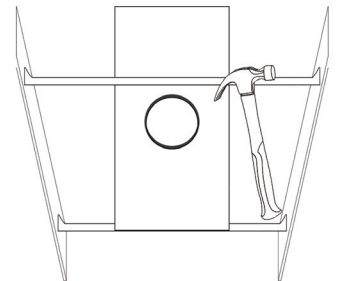

Fig. 1
- Position fixture temporarily by hammering "Nail" into joists. (Fig.1) Then secure permanently with nails. Hangers should be level with bottom of joists.